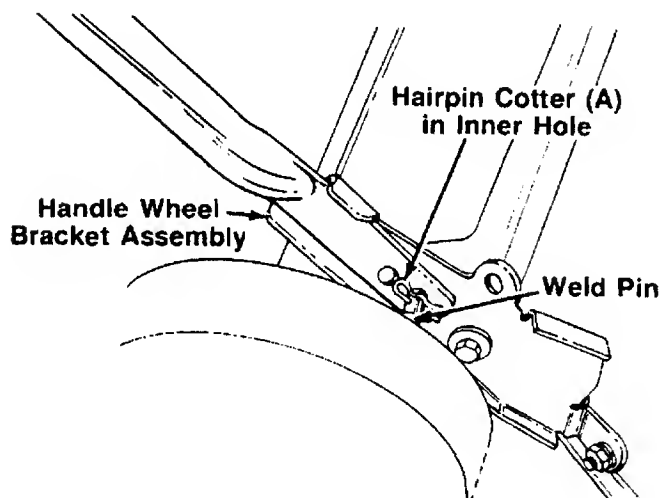

FIGURE 2.
4. Attach the lower handle by placing the bottom holes in the lower handle over the weld pins on the handle wheel bracket assemblies. Make certain the instruction label on the lower handle can be read from the operating position. Secure with hairpin cotter (A) in inner holes on weld pins. See figure 2.